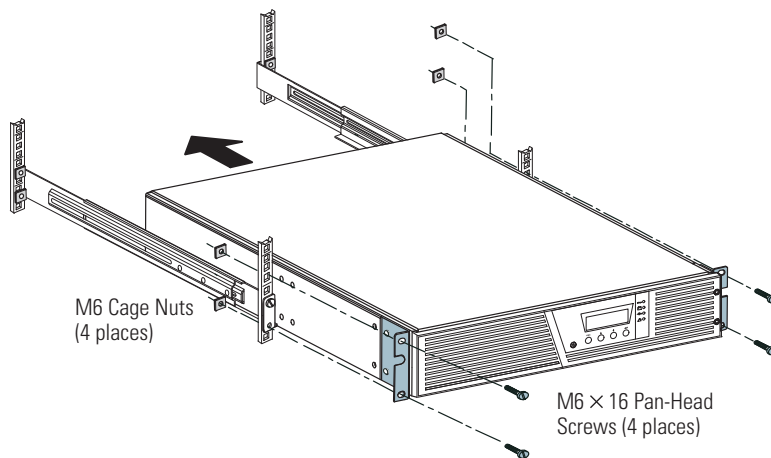

Figure 7. Securing the Front of the Cabinet
12. Secure the front of the UPS to the rack using two M6x16 pan-head screws and two M6 cage nuts on each side (see Figure 7). Install the bottom screw on each side through the bottom hole of the mounting bracket and the bottom hole of the rail.